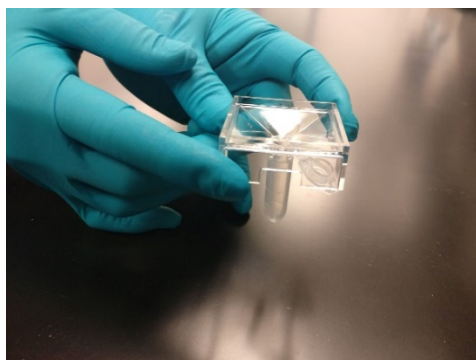

Figure 95. Assembling the collection module.
2. Open the collection kit and label the Collection Tube with the engraved chip number. Assemble the collection module by attaching the Collection Tube to the Collection Fixture, as shown in Figure 95.